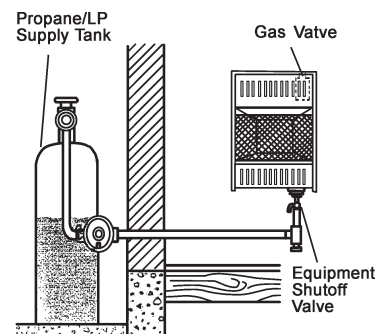

Figure 18 - Fuel Supply
3. Check all joints from gas meter to equipment shutoff valve (see Figure 18).